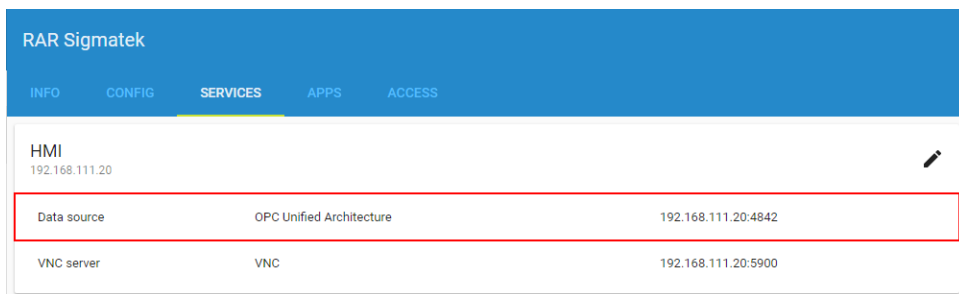

Figure 5.63 From the RAP > Devices > Services tab, click on the edit button of the station with the data source to add variables.
- a. From RAP > Device > Services click on the pencil icon of the relevant control (Figure 5.63).